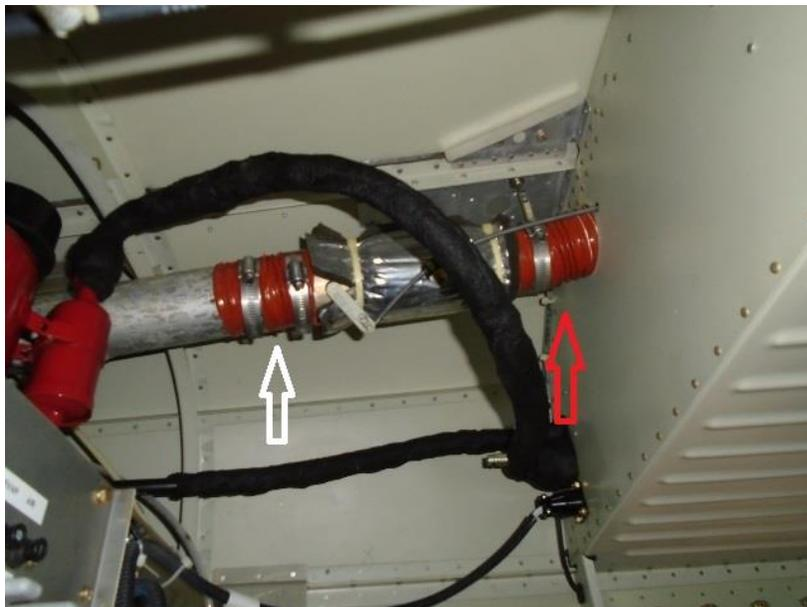

Figure 31 - Air Duct Modification Behind Hat Rack
- 9) Connect the rear side of 2 ½" ID 05-29910 Scat Hose to the butterfly valve behind the Hat Rack. Make note of the butterfly valve position for later re-assembly. If the old sleeve behind the butterfly valve is old and brittle, stiffen the connection by replacing it with about 5" of 05-29910 Scat Hose. See Figure 31.